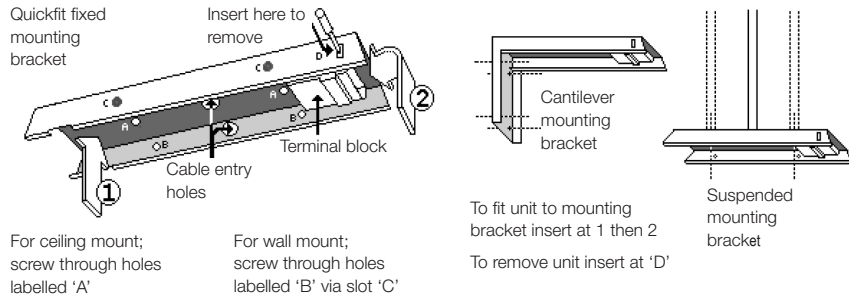

Figure 1: Quickfit mounting bracket details
3. If all looks okay, take the mounting bracket and whilst holding it into place against the ceiling or wall, use a pencil to mark the position of the screw holes (at A and/or B in figure 1) and cable entry position through the bracket onto the ceiling or wall as appropriate. Make sure to allow at least 50mm of free space to the right hand side of the final location of the unit to allow for the sliding function of attaching the unit to the mounting bracket. If need be, turn the bracket around and swap the diffuser with the back plate to permit room for inserting and removing the unit from the mounting bracket. Orient the bracket in such a way as to make the LED and push button readily visible and accessible when the unit is installed.